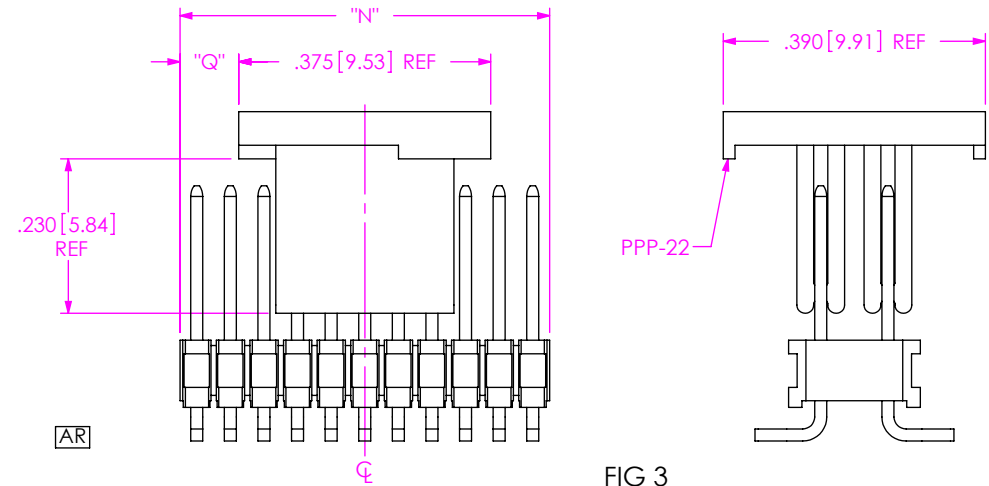

FIG 3
-P: PICK & PLACE PAD (USE PPP-22) (SEE FIG 3, SHT 2) [5 POS MIN]